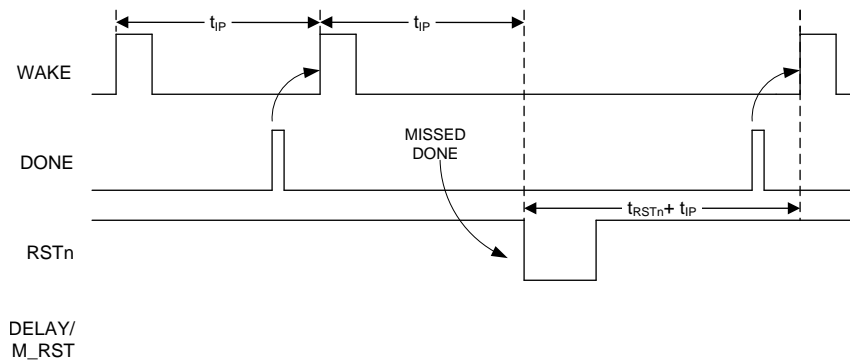
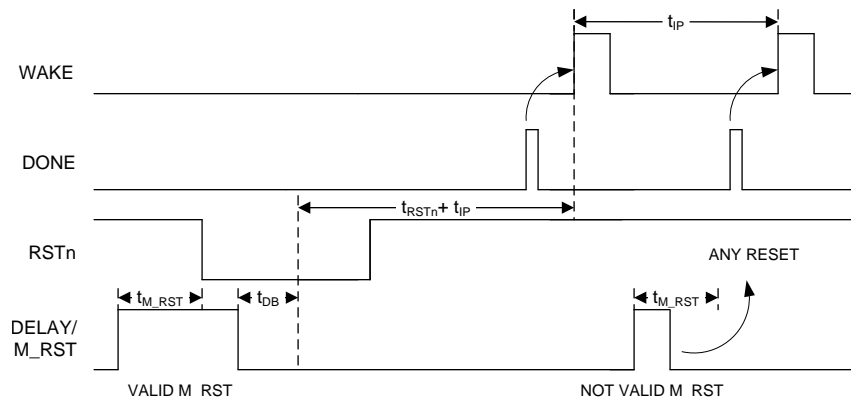

Figure 8. Watchdog
Figure 10. Manual Reset
2. At the beginning of a new time interval if DONE is not received at least 20 ms before the next WAKE rising edge (see Figure 8).
During normal operating mode, the TPL5010 asserts periodic WAKE pulses in response to valid DONE pulses from the  $\mu\text{C}$ . If either a manual reset is applied (logic HIGH on DELAY/M\_RST pin), or the  $\mu\text{C}$  does not issue a DONE pulse within the required time, the TPL5010 asserts the RSTn signal to the  $\mu\text{C}$  and restarts its internal counters. See Figure 8 and Figure 10.